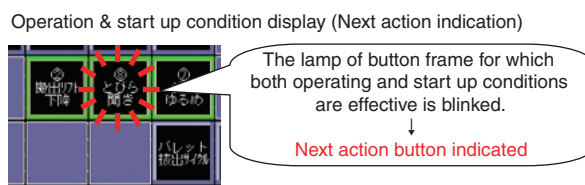

Fig. 4 Operational guidance
- 2) When using the operation guidance function the next action button (following the fault) is highlighted which expedites the smooth execution of the actions required to resume operation after an unexpected failure (Fig. 4).